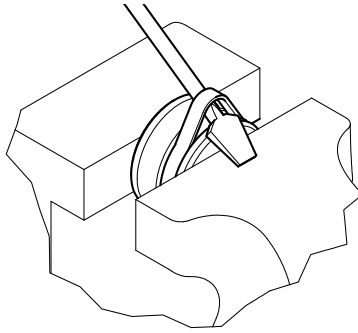

Figure 4-7, Piston Seal
7. Carefully pry up on the piston seals using a blunt tip screw driver being careful not to scratch the seal grooves. Cut the seals to remove from the piston. (Figure 4-7)